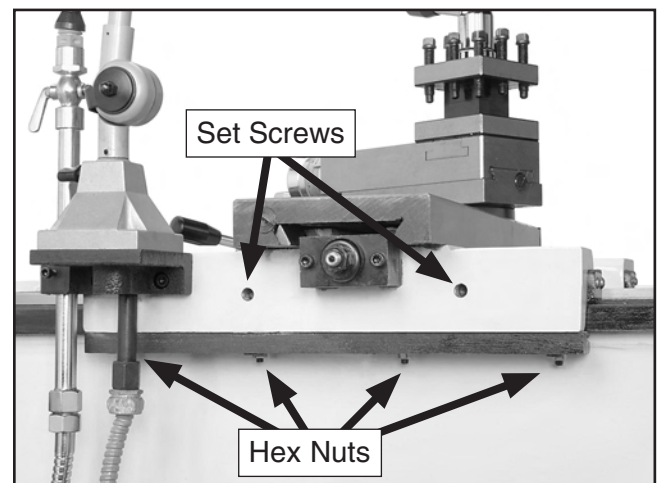

Figure 85. Saddle gib adjustments.
1. Loosen four hex nuts found at the bottom rear of the cross slide and back off one full turn each (see **Figure 85**).